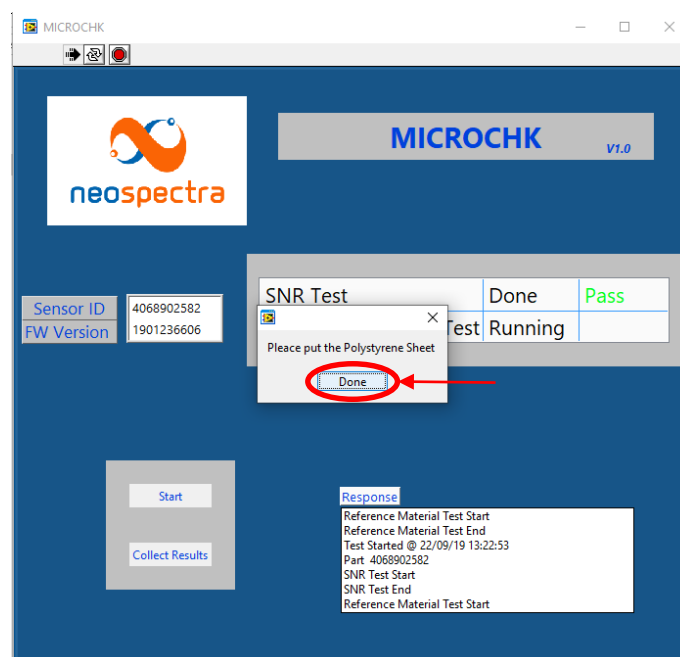

Figure 14: Reference material test prompt message
9. If SNR test in previous step passed, MICROCHK will proceed automatically to 2nd test "Reference material test". A message will pop-up "Please put the Polystyrene Sheet" as shown in Figure 14.